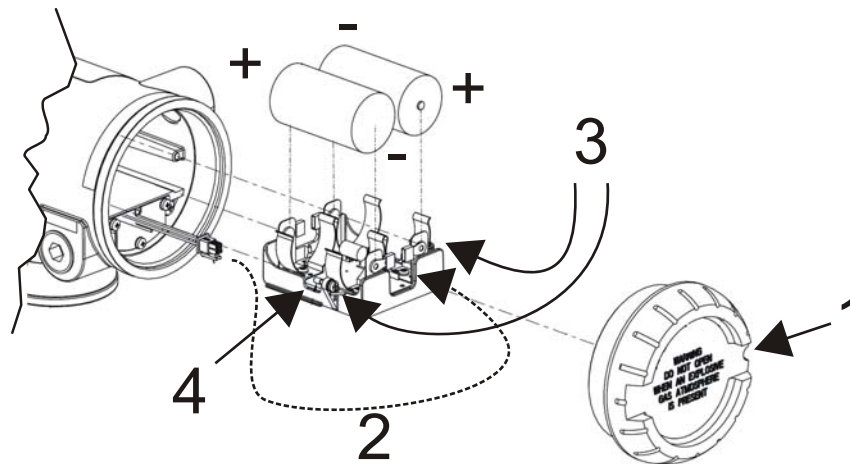

Figure 15 Battery assembly
- 1 Loosen the M3 locking set screw on the battery end-cap (opposite end from display). See item 1 in Figure 15. Unscrew and remove the end cap.